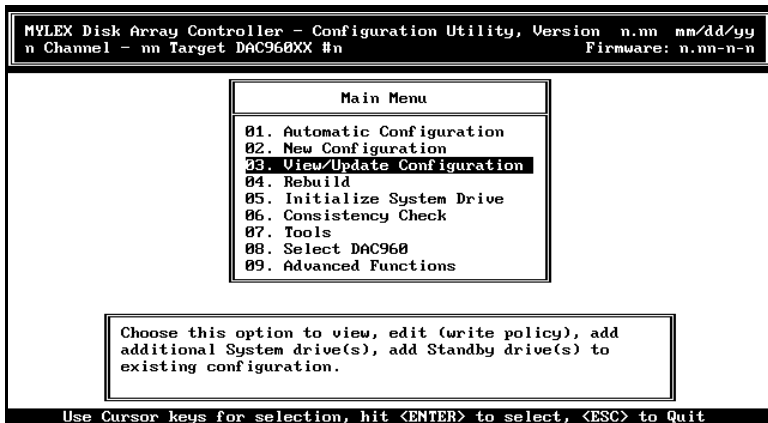

Figure 3-1. View/Update Configuration Option
- Select **View/Update Configuration** from the Main menu to perform any of the associated activities (Figure 3-1).